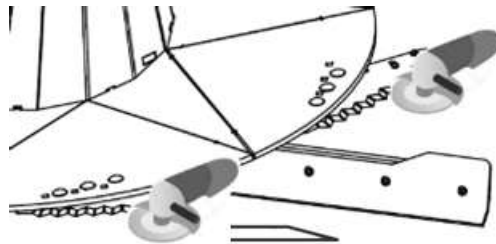

Figure 56 — Grinding the Knife Teeth
2. When the teeth on all the knives are worn down, grind the teeth to sharpen them (Figure 56).